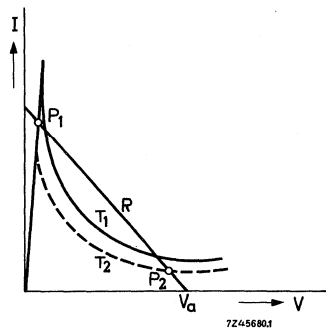

Fig.8.
- (3) the load resistance decreases (Fig.8).